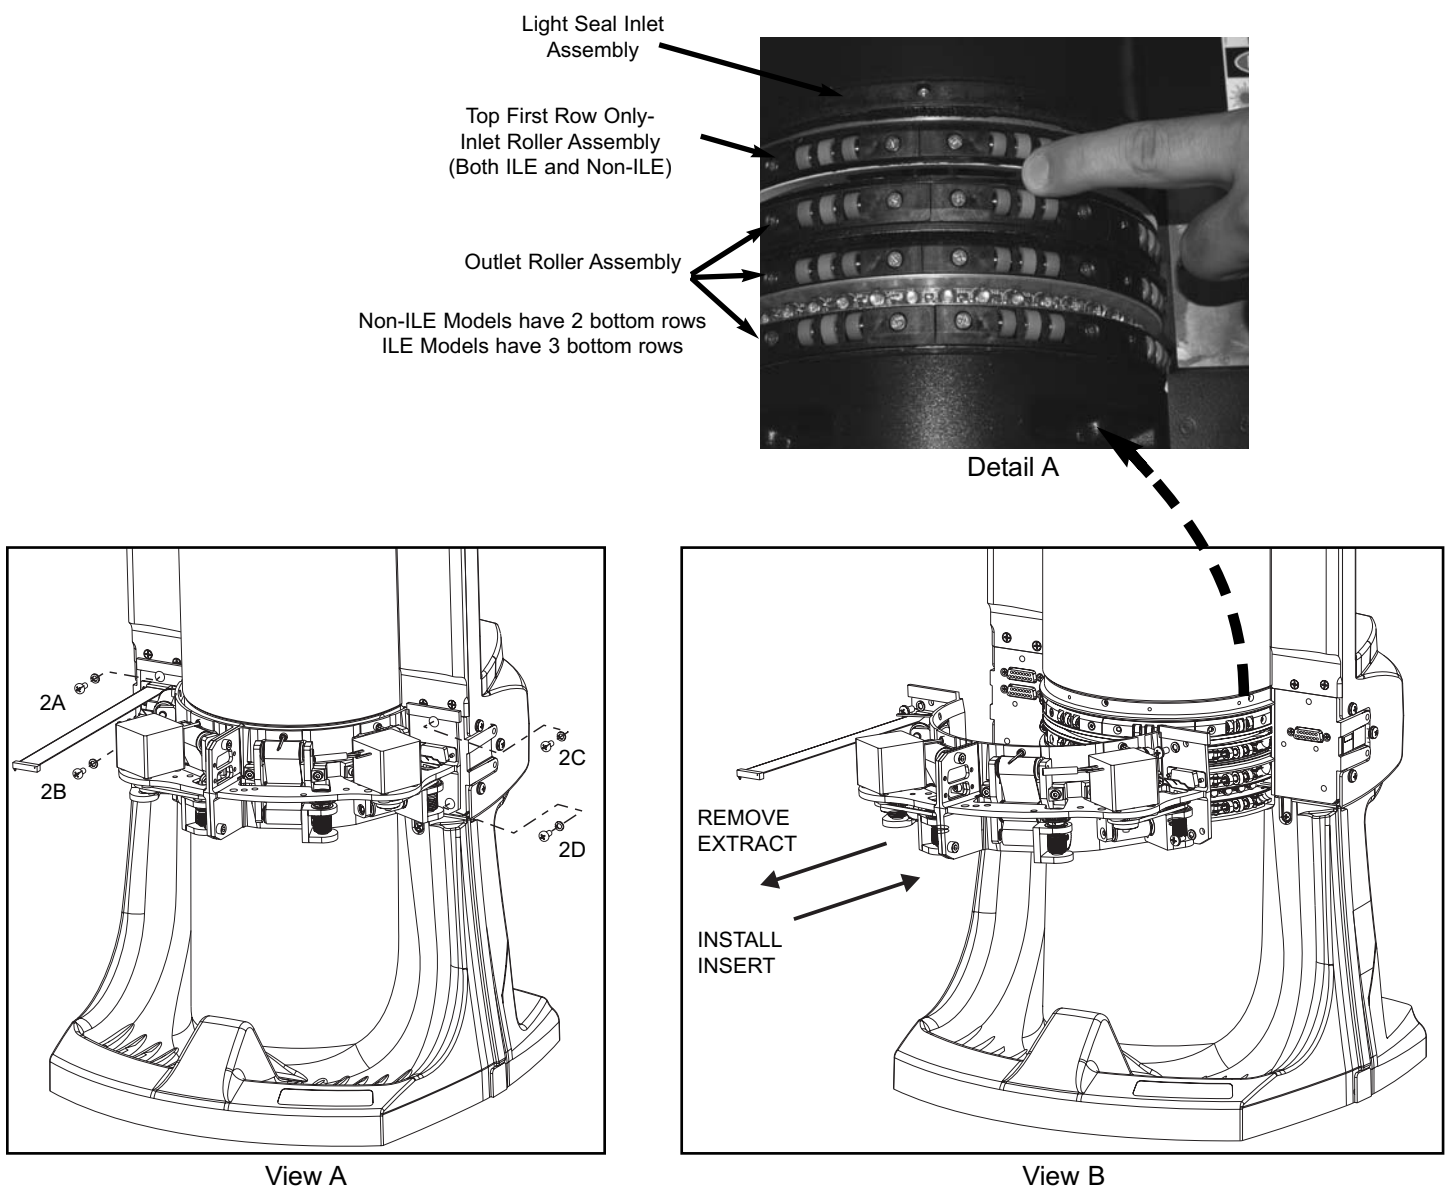

Figure 2. ScanX Transport Arch Replacement
Removing the Transport Arch. Refer to Figure 2 and remove the Transport Arch assembly.
Installing the Transport Arch. Refer to Figures 2 and 4 and install the new Transport Arch assembly as follows:
2. Refer to Figure 2, View B and carefully push the arch horizontally, straight back into the associated mating connectors of the ScanX until the arch is seated flush against the mounting block surfaces.
4. Refer to Figure 2, View A, and install the 4 SEM screws supplied in the replacement kit hand tight.